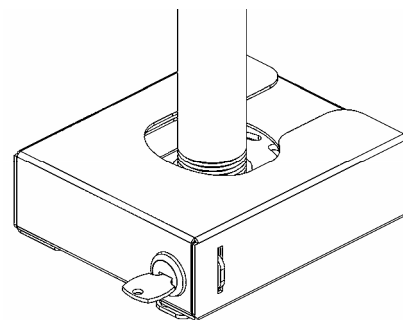

Figure 10. Locked
2. Turn key 90 degrees clockwise to secure (locked position see Figure 10).